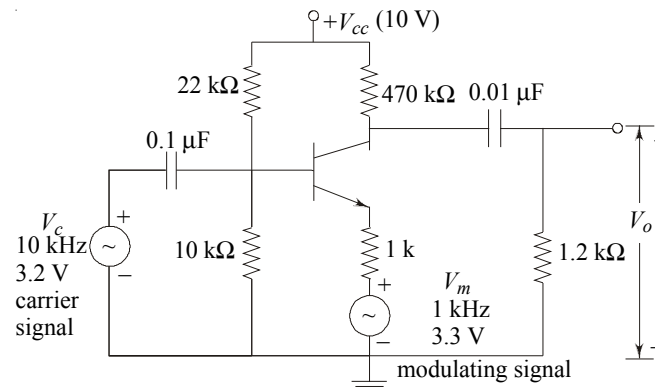

Fig. 6.28
1. Connections are made as shown in the Fig. 6.28.